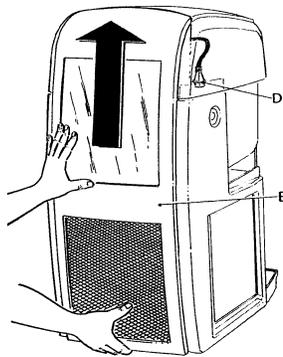

FIGURE 32
4. Disconnect the plug (D in FIGURE 32).
5. Lift and remove the back (E in FIGURE 32).